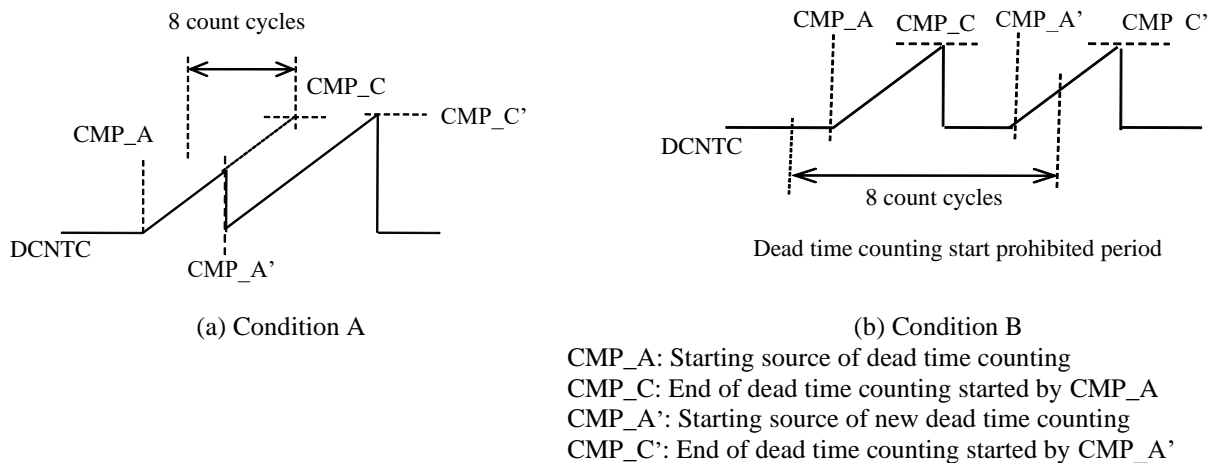

Figure 15-17. Prohibited Waveform of Dead Time Counter (DCNTC)
- Condition A: When another event which starts counting of dead time again is generated in one to 8 count cycles before the timing at which dead time counting ends (see Figure 15-17 (a)) while the dead time counter is operating.
- Condition B: When, the same dead time counter starts counting twice or more within 8 count cycles (see Figure 15-17 (b)) while the PWM counter is operating in the up mode (i.e., PWMnCNTMD.PWMCM = 0).